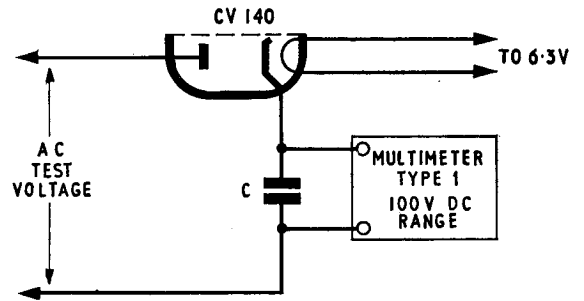

Fig. 1. Peak-voltage measuring circuit
Test rigs as fig. 1 and fig. 2.
- (1) Connect A1 of the oscilloscope to the 5 MILE output socket (SK6 or SK7) of the test set Type 402.
- (2) Select $10\ \mu\text{SEC}$ calibration markers on SW.5, labelled CAL. MARKERS, of the 13A. The spacing of the 5 nautical miles marks is equivalent to $61.78\ \mu\text{S}$, so that two of these marks should just encompass seven $10\ \mu\text{S}$ marks.
- (3) Make any adjustment that may be required by varying the inductance of the calibration oscillator coil L1.
- (4) Also calibrate the $1\ \mu\text{SEC}$ marks, adjusting inductor L2 as required (L1 and L2 are accessible when the oscilloscope case has been removed—full details in A.P.2897AF).
9. Fig. 1 shows a simple peak-voltage measuring circuit. The value of the cathode capacitor of the CV140 is not critical and any high resistance voltmeter may be used, the principle being that the long CR of the circuit permits the capacitor to charge to